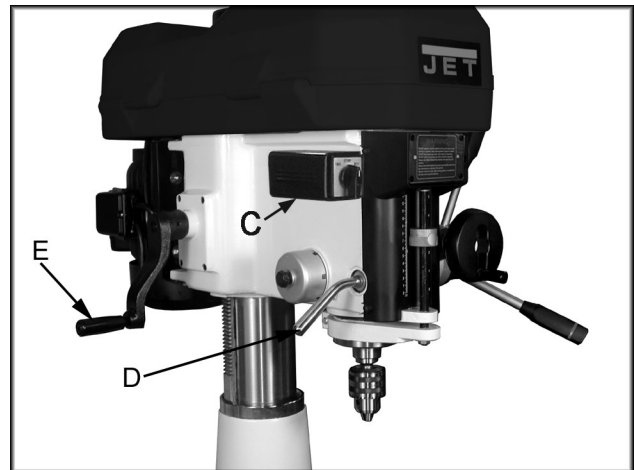

Fig. 10
**On-Off Switch: (C, Fig. 10)**
**Quill Lock Handle: (D, Fig. 10)**
**Head Elevating Crank Handle: (E, Fig. 10)**